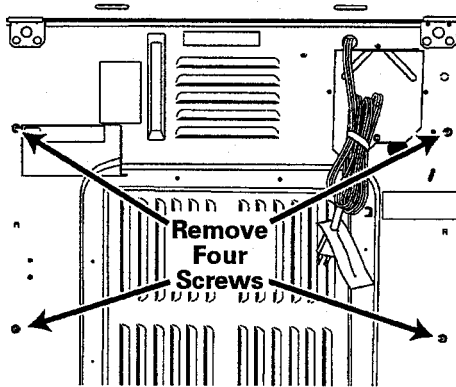

Figure 2-40
7. From back of dryer, remove four screws holding tumbler back assembly and remove assembly, *see Figure 2-40*.